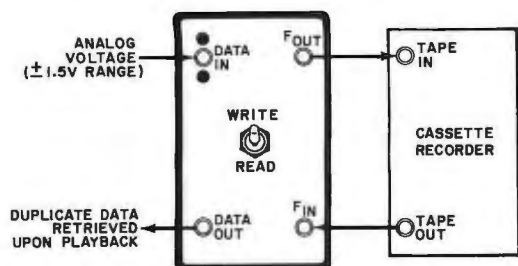

Fig. 5. Use this setup to connect Translator to a tape recorder.
**Operation.** A typical arrangement for low-frequency analog recording is shown in Fig. 5. To record data, place the MODE switch in WRITE, turn on the tape recorder and the Translator. Operate the MARK pushbutton to denote any desired special point in the recording. Use the same interconnection to read the data back, but with the MODE switch on READ.